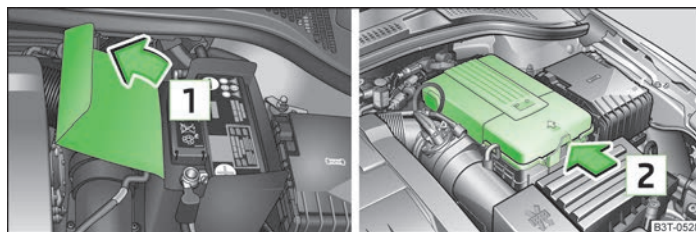

Fig. 162 Engine compartment: Polyester cover of the vehicle battery/plastic cover of the vehicle battery
The battery is located in the engine compartment in a polyester cover **1** » Fig. 162, in a plastic cover **2** » Fig. 162 or in the left side of the boot » Fig. 102 on page 90.
- Open the battery cover in the direction of the arrow **1** or press the interlock on the side of the battery cover in the direction of the arrow **2** » Fig. 162, fold the cover up and remove.
When working on the battery, the edge of the polyester battery cover **1** » Fig. 162 is inserted between the battery and the side wall of the battery cover.